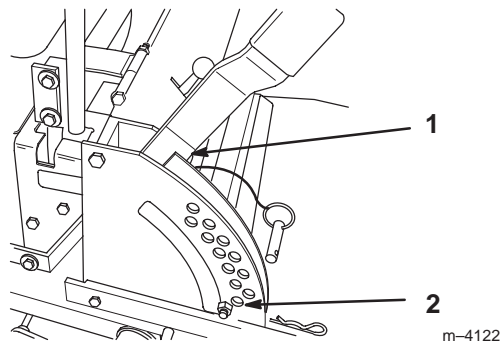
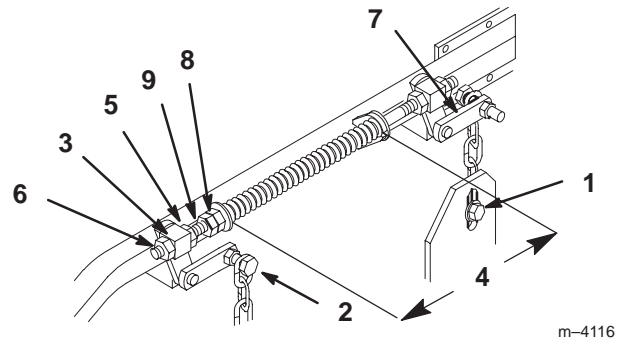

Figure 61
Figure 62
2. Check tire pressure of all four (4) tires. If needed, adjust to 13 psi (90 kPa)
4. Raise the deck to the transport position (Fig. 61). Take force off of the two large deck lift springs by loosening jam nut and front spring nut, in front of each spring, as far as possible (Fig. 62).
5. Place two 1-1/4 inch (35 mm) thick blocks under rear left and right lower edge of mower. Place one 1-3/8 inch (44 mm) block under front center lower edge of mower. Not under anti-scalp roller brackets. Lower mower to the 1-1/2 inch (38 mm) height-of-cut position (Fig. 61).
6. Loosen bottom chain bolt in slot at rear of deck. Repeat for opposite side. (Fig. 62).
7. Loosen front and rear locking nut on either side of front swivel. Loosen until front chains are loose and deck is supported by blocks. Repeat for opposite side. (Fig. 62).
8. When hardware is loosened, remaining tension in the large support springs will tend to rotate the deck lift handle up, out of the 1-1/2 inch (38 mm) position. Press down on the rear deck support arm to firmly return the deck lift handle to the 1-1/2 inch (38 mm) position (Fig. 62).
9. While continuing to press down on rear deck support arm, take the slack out of the rear chain and tighten hardware at the bottom (Fig. 62). Downward pressure may now be released. Repeat for opposite side.
14. Raise deck lift lever to the transport position (Fig. 61).
15. Adjust compression springs by turning the front spring nuts so the distance between the two large washers is 10-1/4 inch (260 mm). Then tighten jam nut (Fig. 62).